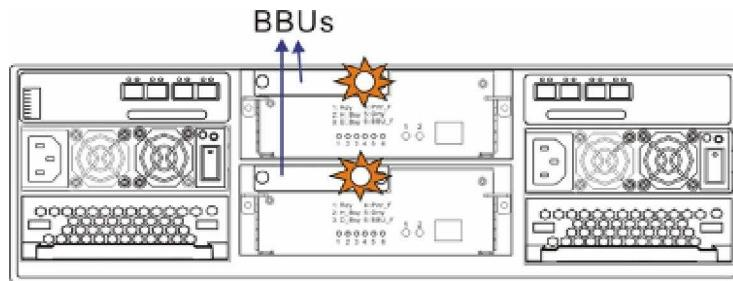

Figure 5-12: BBU LEDs
Step 4. *Reset the subsystem* for the new BBU to take effect. The LED should start flashing to indicate that BBU is being charged. When the BBU is fully charged, the LED will light amber constantly. (See **Figure 5-12**)